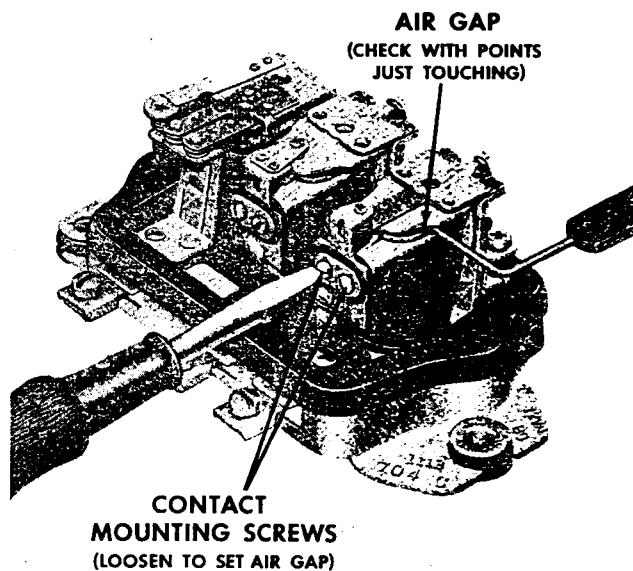

Figure 5—Voltage regulator air gap check and adjustment.
The contact points of a regulator will not operate indefinitely without some attention. It has been found that a great majority of all regulator trouble can be eliminated by a simple cleaning of the contact points, plus some possible readjustment. The flat points should be cleaned with a spoon or riffler file. On negative grounded regulators which have the flat contact point on the regulator armatures, loosen the contact bracket mounting screws so that the bracket can be tilted to one side (Fig. 5). On positive grounded regulators, the flat point is in the upper contact bracket so the bracket must be removed for cleaning the points. A flat file cannot be used successfully to clean the flat contact points since it will not touch the center of the flat point where point wear is most apt to occur. NEVER USE EMERY CLOTH OR SANDPAPER TO CLEAN THE CONTACT POINTS. Remove all the oxides from the contact points but note that it is not necessary to remove any cavity that may have developed.
**Air Gap**—to check air gap, push armature down until the contact points are just touching and then measure air gap (Fig. 5). Adjust by loosening the contact mounting screws and raising or lowering contact bracket as required. Be sure the points are lined up and tighten screws after adjustment.